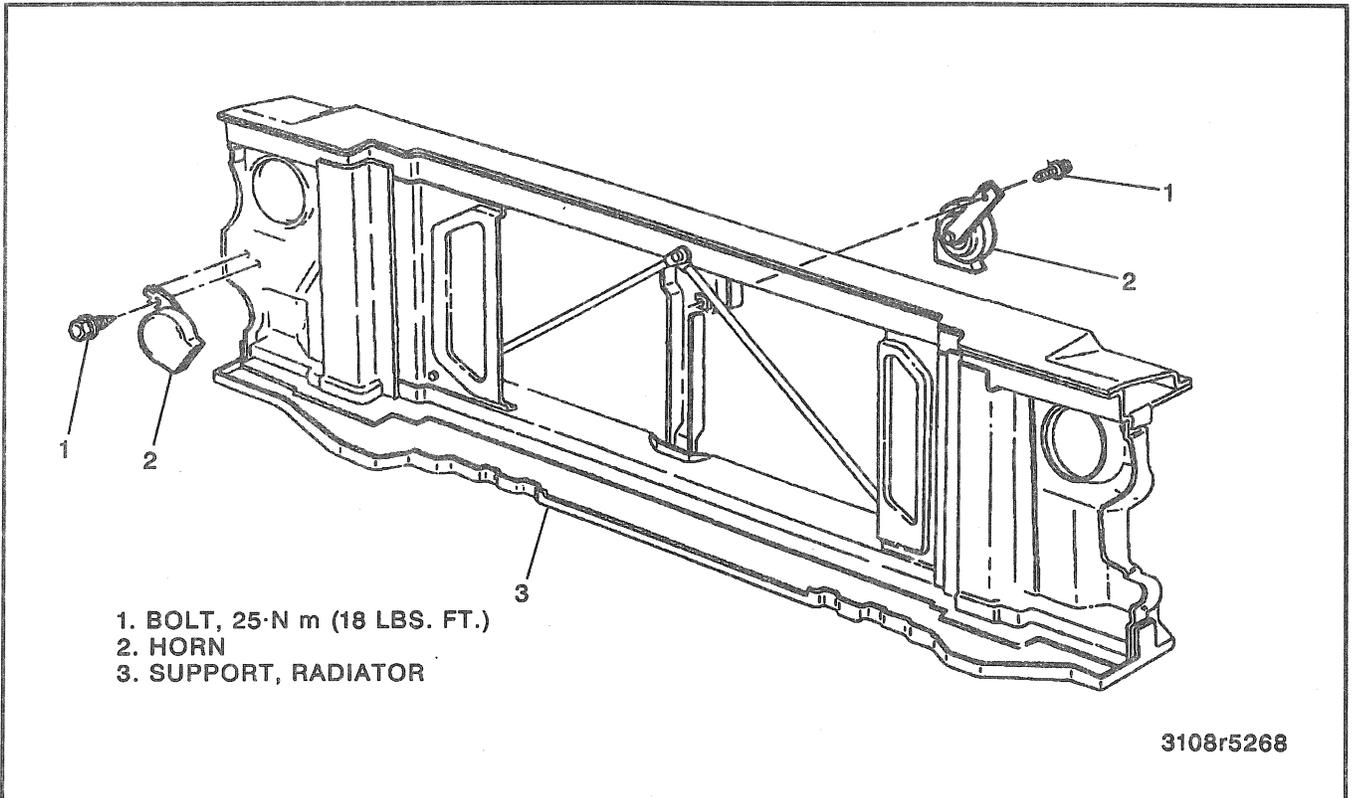

Figure 4—Horn Replacement
**↔** Remove or Disconnect (Figure 4)
**↔** Install or Connect (Figure 4)